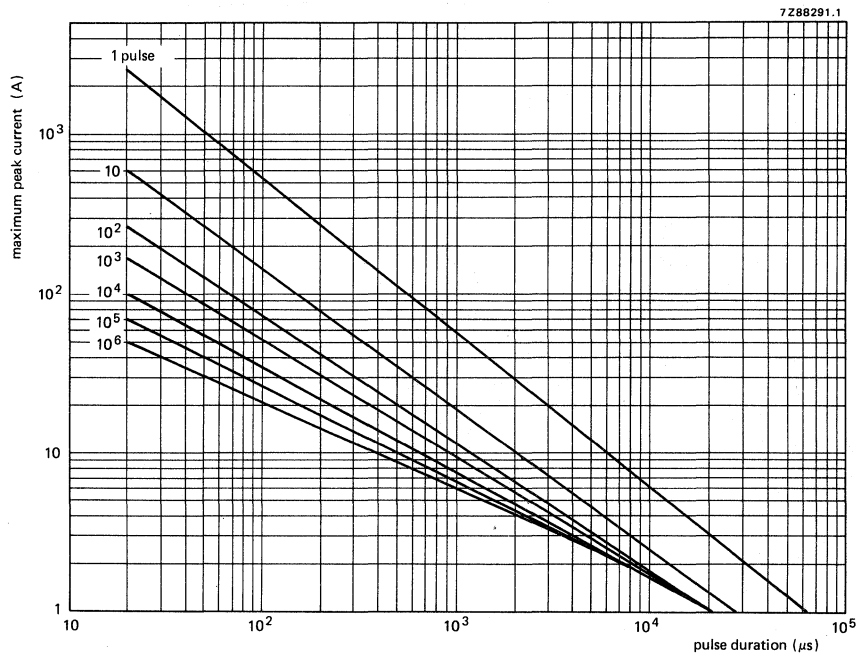

Fig. 3 Max. applicable transient current as a function of pulse duration.
5. A current impulse of 8/20 μs (defined in IEC 60-2 section 6) is used as a standard for impulse current and clamping voltage ratings. The transient energy is given for one impulse applied during the life of the component. Figure 3 gives the derating for different numbers and longer duration of impulses. The shift of the varistor voltage does not exceed $\pm 5\%$.